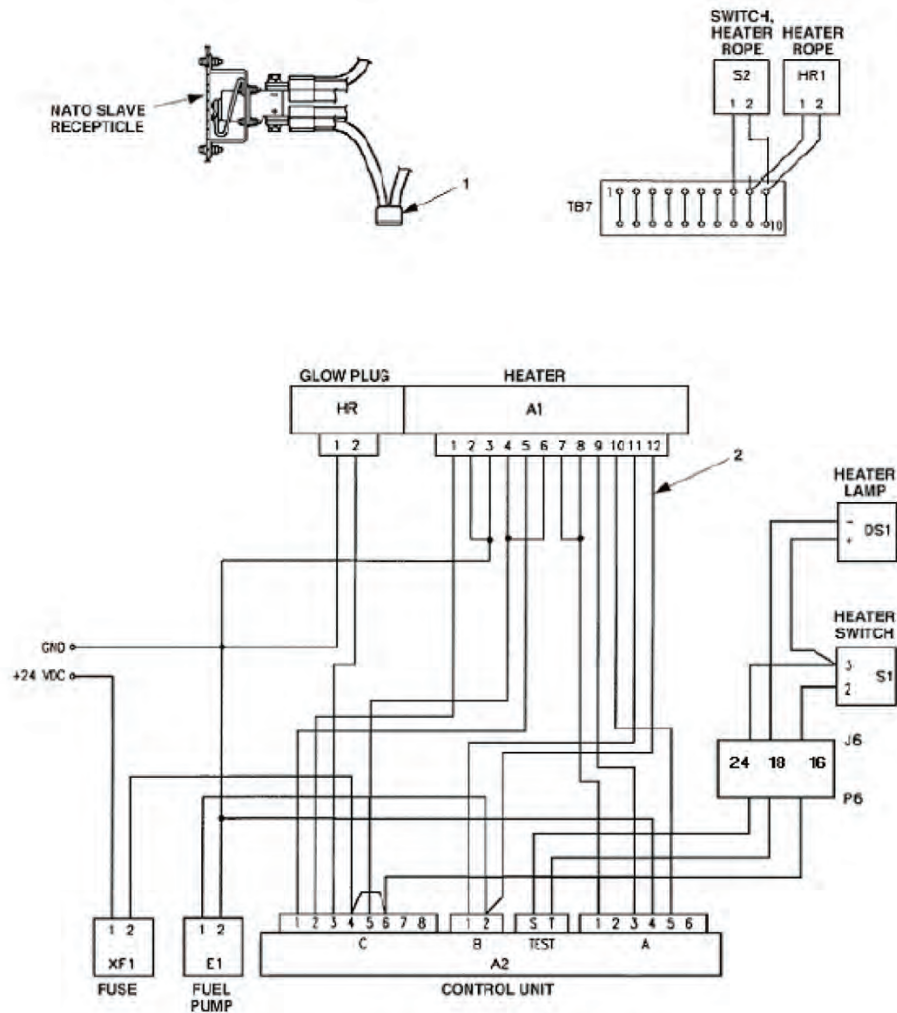
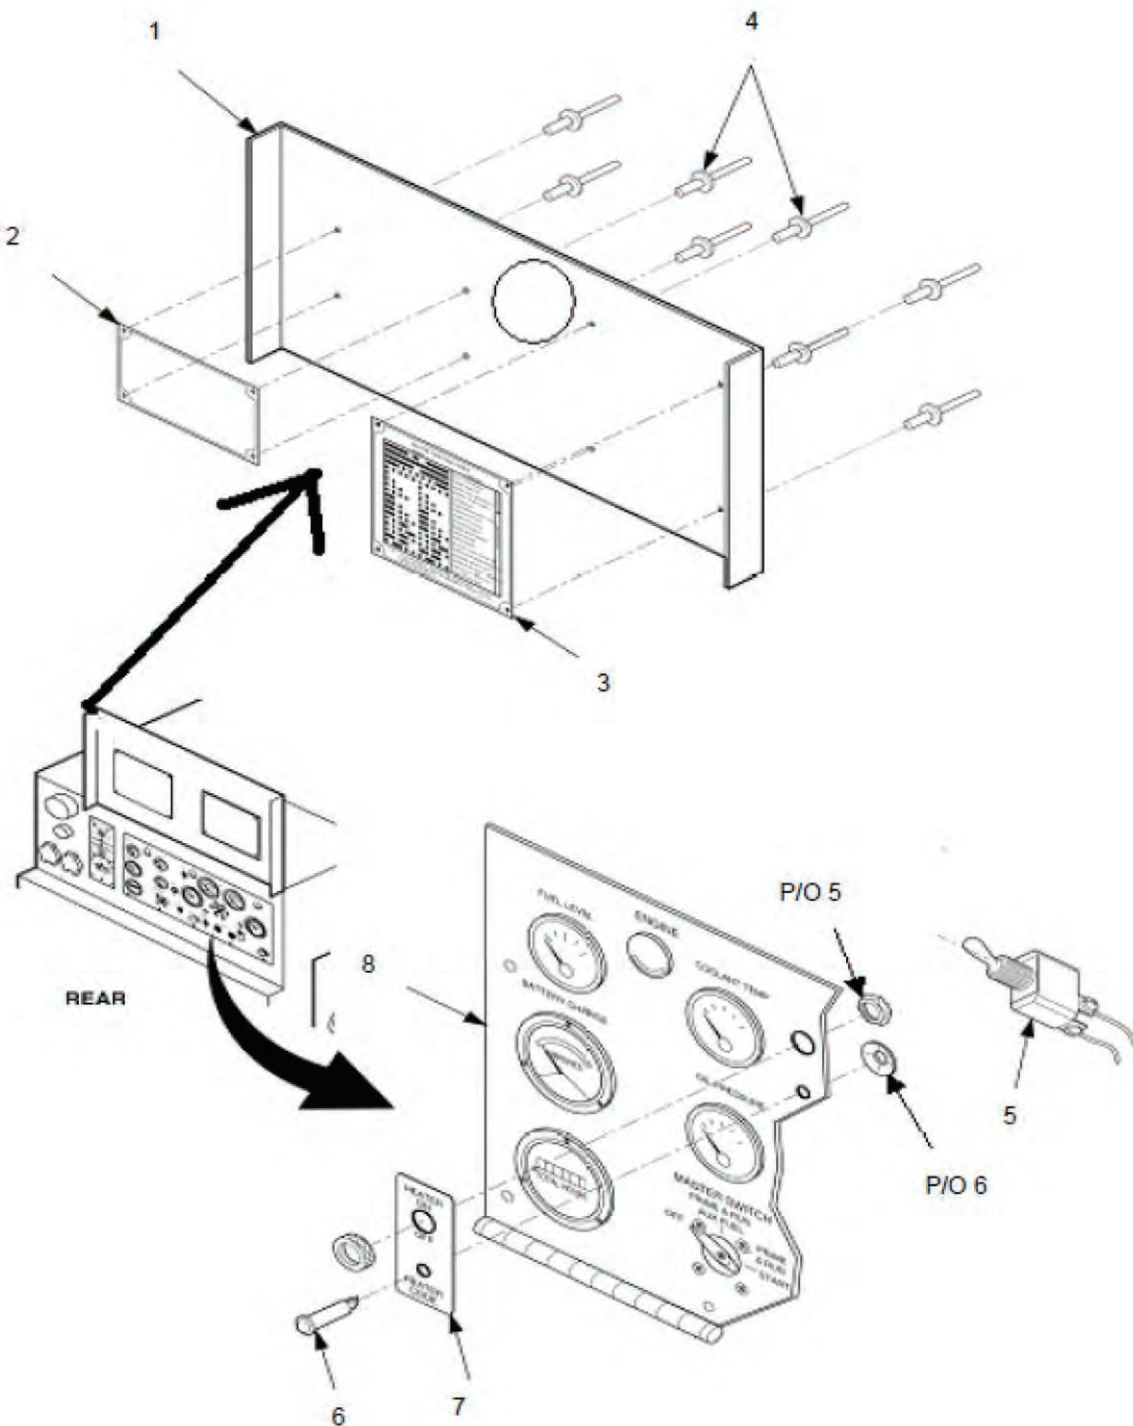
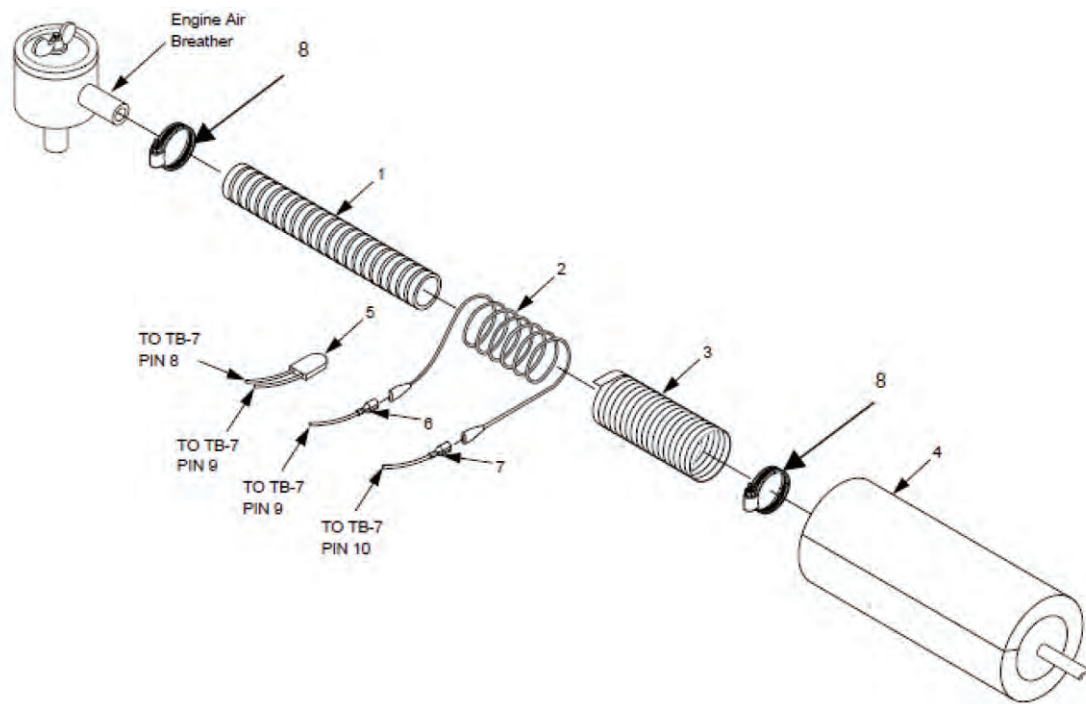

Figure 7. Fuse and Wiring Harness.
Figure 8. Cover and Instrument Panel.
Figure 9. Breather Tube Heater Assembly.
- l. Remove and discard pins from P6-16 and P6-24, Figure 7.
- m. Install wiring harness (Figure 7, Item 2) in accordance with wiring diagram. Secure harness with straps contained in kit.
- n. Install fuse by connecting 24V terminal wire from fuse holder (1) to the positive side of the slave receptacle (Figure 7), and the ground wire to the negative side of the slave receptacle.
- o. Drill a 1/5" hole in a visible location next to the slave receptacle and mount fuse holder (1) using screw, flat washer, lockwasher, and nut provided in kit.
- p. Open control panel access door (Figure 8, Item 1).
- q. Locate operating instruction plate (2) and heater function codes plate (3), and match drill holes in control panel access door (1). Plates shall be readable when the door is open.
- r. Install rivets (4). Rivet head shall be to the outside of the unit.
- s. Remove toggle switch (5) and wire 172A from TB5-9 and wire 190D from TB6-8. Tie back switch and wires in harness with straps contained in kit.
- t. Locate heater switch label (7), with existing hole for switch, and match drill hole in control panel (8) for indicator light (6).
- u. Install heater switch label (7), indicator light (6), and toggle switch (5), with the keyway side down, to control panel.
- v. Using a pin remove tool, remove wire 172C from J6-18 (see Figure 7) and tie back in harness with straps contained in kit.
- x. Install three electrical leads in accordance with wiring diagram (see Figure 7). Secure leads with straps contained in kit.
- y. Remove clamps (Figure 9, Item 8), and discard hose from crankcase breather air intake tube in accordance with WP 0075, Removal. Wrap rope heater (2) assembly spirally on new air breather hose (1) provided in kit approximately five (5) revolutions, leaving approximately six (6) inches of rope heater (2) on each end of hose. Wrap rope heater (2) and air breather hose (1) with foil tape (3) provided in kit. Install pipe insulation (4) over air breather hose (1), rope heater (2), and foil tape (3), leaving rope heater wires exposed for electrical connection. Install assembled air breather hose (1) between crankcase breather and air intake hose. Secure air breather hose (1) with clamps (8) removed from above.
- z. Install rope heater to TB-7, HR1 inside output box and electrical leads in accordance wiring diagram, Figure 7. Secure leads (Figure 9, Items 6 and 7) with straps contained in kit.
- aa. Install thermostat assembly (5) to TB-7 pins 8 and 9.
- ac. Install thermostat assembly (5) to TB-7 pins 8 and 9.
- aj. With engine running, start heater. Check the indicator light (Figure 8, Item 6) per the heater function codes plate (3) for heater operation.